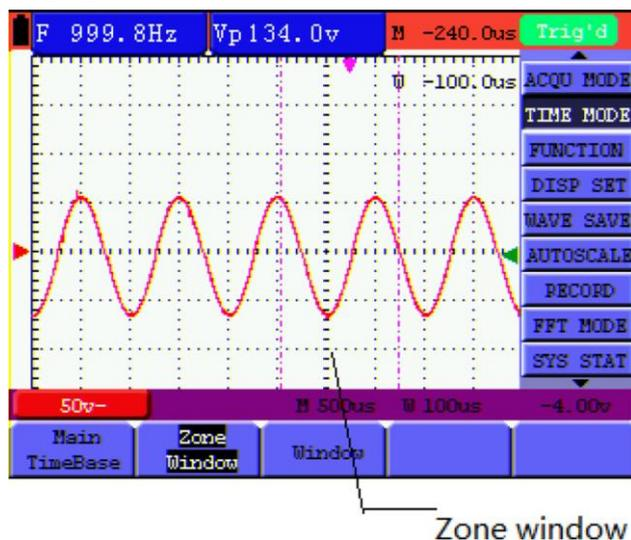

Figure 60: Window Setting
- 3.) Press **F4** key and select **Misc** to display the system time, see Fig.60.
The screen that looks like the following figure 60, 61 will be displayed.